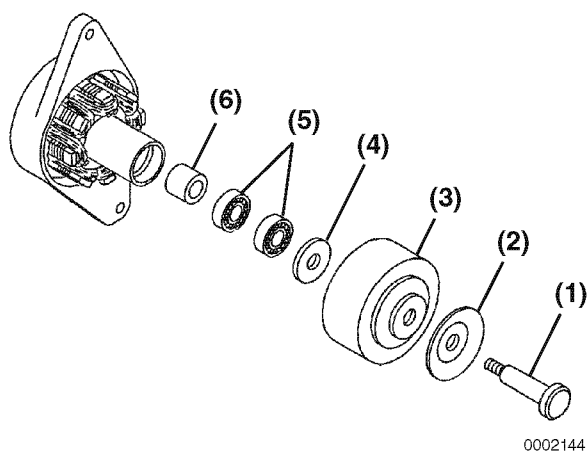

Figure 12-25
3. Remove the through bolt (Figure 12-25, (1)), pulley half (Figure 12-25, (2)), flywheel (Figure 12-25, (3)), flat washer (Figure 12-25, (4)), bearings (Figure 12-25, (5)), and spacer (Figure 12-25, (6)).